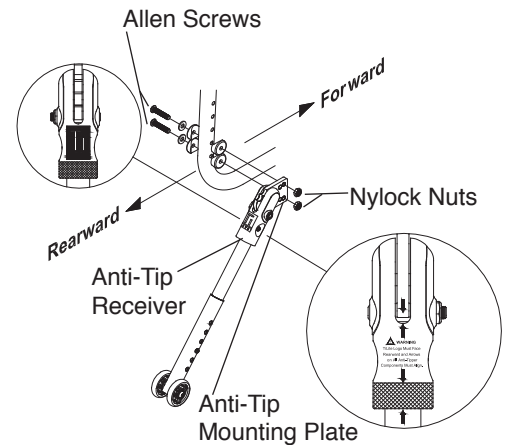

Figure 13
Do not disassemble the anti-tip mounting assembly (see Figure 13). *If you ignore this warning, you may fall, tip over or lose control of the wheelchair and seriously injure yourself or others or damage the wheelchair.*
2. Without disassembling the anti-tip mounting plate from the anti-tip receiver, align the anti-tip mounting plate with two holes in the rear of the frame and install the Allen Screws through the frame and plate as shown in Figure 13.
3. **⚠️ WARNING:** Make sure that the TiLite logo is visible on the rearward side of the user-friendly anti-tip receivers as shown in Figure 13 and that the white arrows are all aligned on the opposite (forward) side of the anti-tip components as shown in Figure 13. *If you ignore this warning, you may fall, tip over or lose control of the wheelchair and seriously injure yourself or others or damage the wheelchair.*